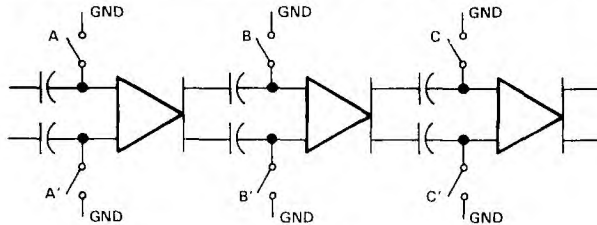

FIGURE 1
1. The IN+ and IN- inputs are internally shorted together in order that the comparator input is zero. A coarse comparator offset calibration is performed by storing the offset voltages of the interconnecting comparator stages on the coupling capacitors that connect these stages. Refer to Figure 1. The storage of offset voltages is accomplished by closing all switches and then opening switches A and A', then switches B and B', and then C and C'. This process continues until all interconnecting stages of the comparator are calibrated. After this action, some of the comparator offset still remains uncalibrated.